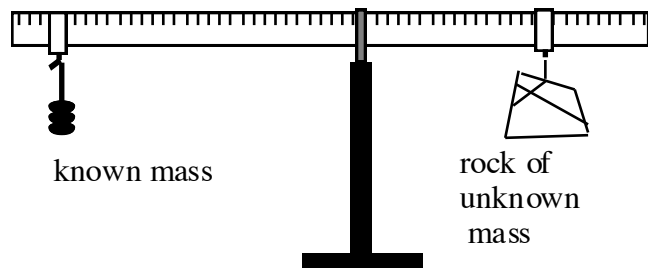

Figure 2
14. a. Measure and record the combined mass of sliding hanger, mass hanger and 100-g mass in kilograms. This is the known mass referred to in Figure 2. b. Calculate and record the weight of this combination.